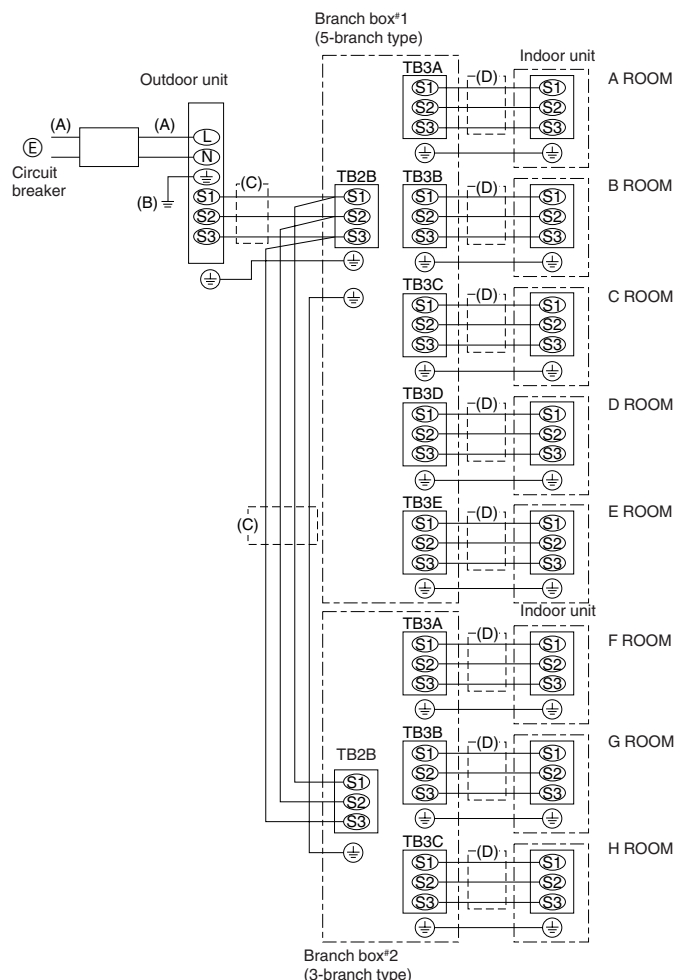

Fig. 7-2
7.3. External wiring procedure (Fig. 7-2)